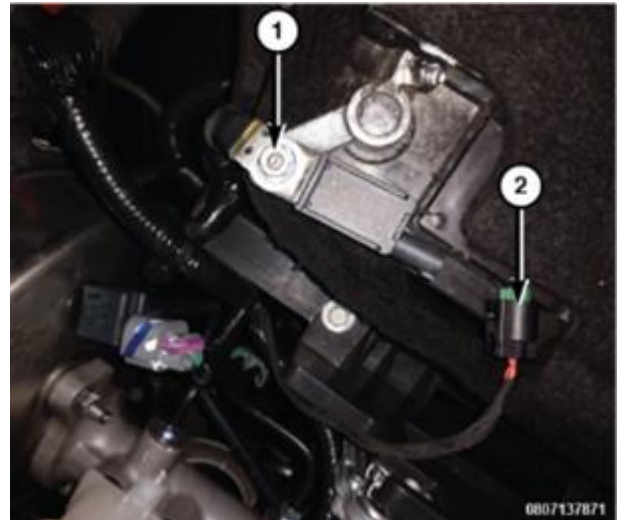

Figure 1 – Battery Disconnect
1. Remove and isolate the negative battery cable eyelet from the IBS. This will isolate the 12 volt from the vehicle electrical system (Figure 1).
2. Disconnect the negative battery cable by removing the ground terminal nut (1) (Figure 1).